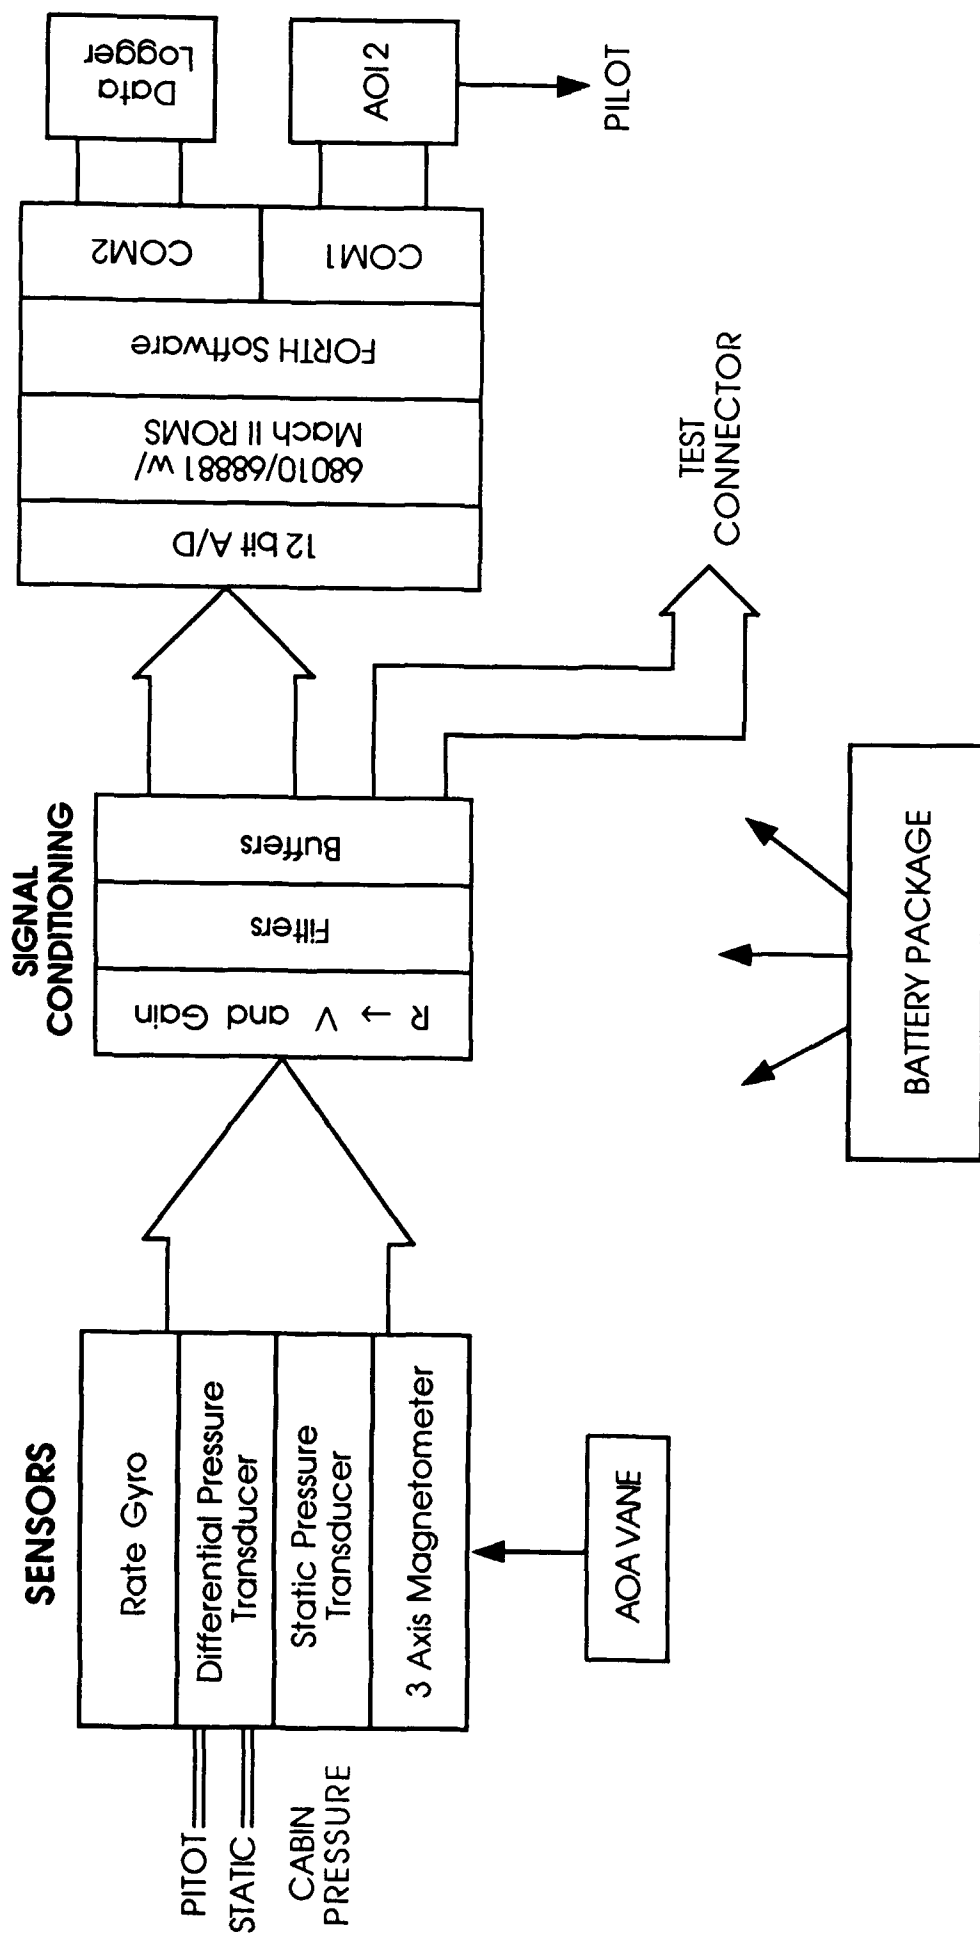

FIGURE 1 - SYSTEM OVERVIEW
- Figure 1 - System Overview
The design of the FIP includes four major subsections (Figure 1: System Overview). The first component, sensors, allows the system to monitor movement, air pressures, and angular changes while in flight. The second, sensor electronics, provides the necessary translation, amplification, and filtration to the raw sensor signals. The third, a computer system, provides the necessary interface and data processing capabilities required to both analyze the sensor data and provide meaningful output to the AOI. Finally, a power source and convertor provide power to both the FIP and the AOI.